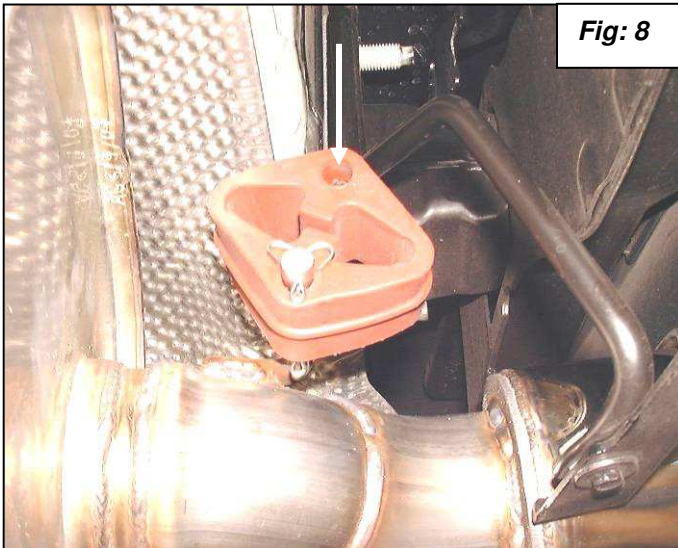

Fig: 8
9. Install each muffler by sliding the clamps over the ends of the pipes. Attach the hangers to the car with the stock bolt and nut in the front and push the hanger over the stock rod in the rear as shown in figures 8 and 9.